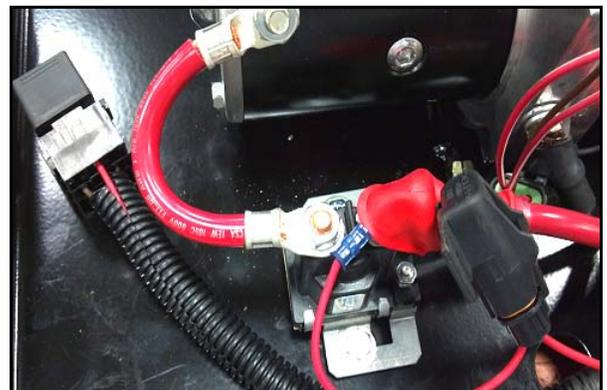

Figure 8
14. Secure loose wires (See Figure 8.). Operate plow through all functions to verify wire routing. Re-route any wires that could be pinched or damaged and re-install pin locks removed in step 1 to complete installation.